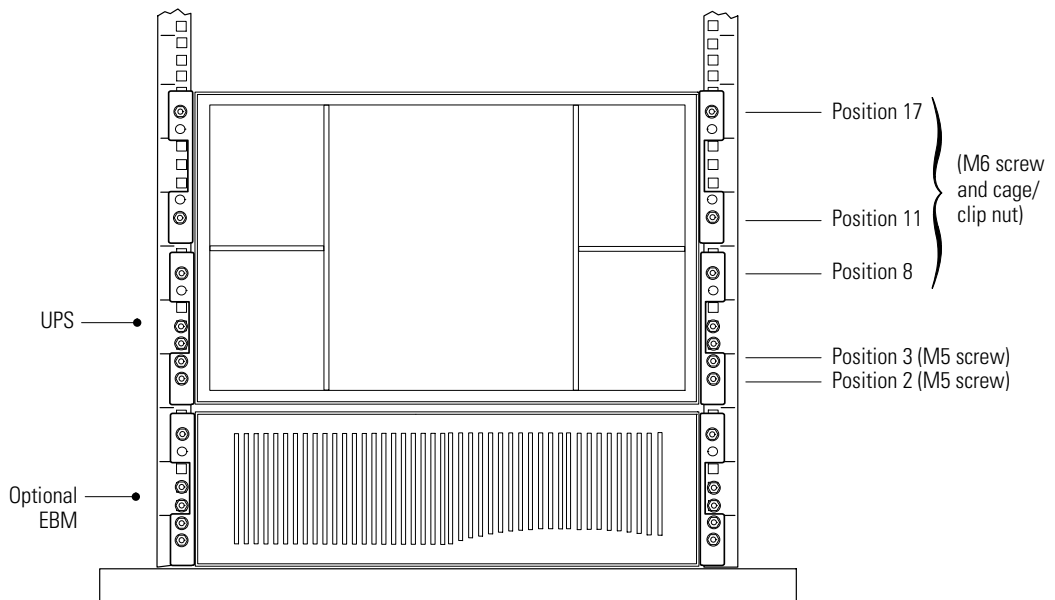

Figure 21. Securing the Front of the UPS
- 13.** Install six cage or clip nuts as shown in Figure 21. If the rack holes are square, use six cage nuts. If the rack holes are round, use six clip nuts.
- 15.** Secure the front of the cabinet to the rack as shown in Figure 21.